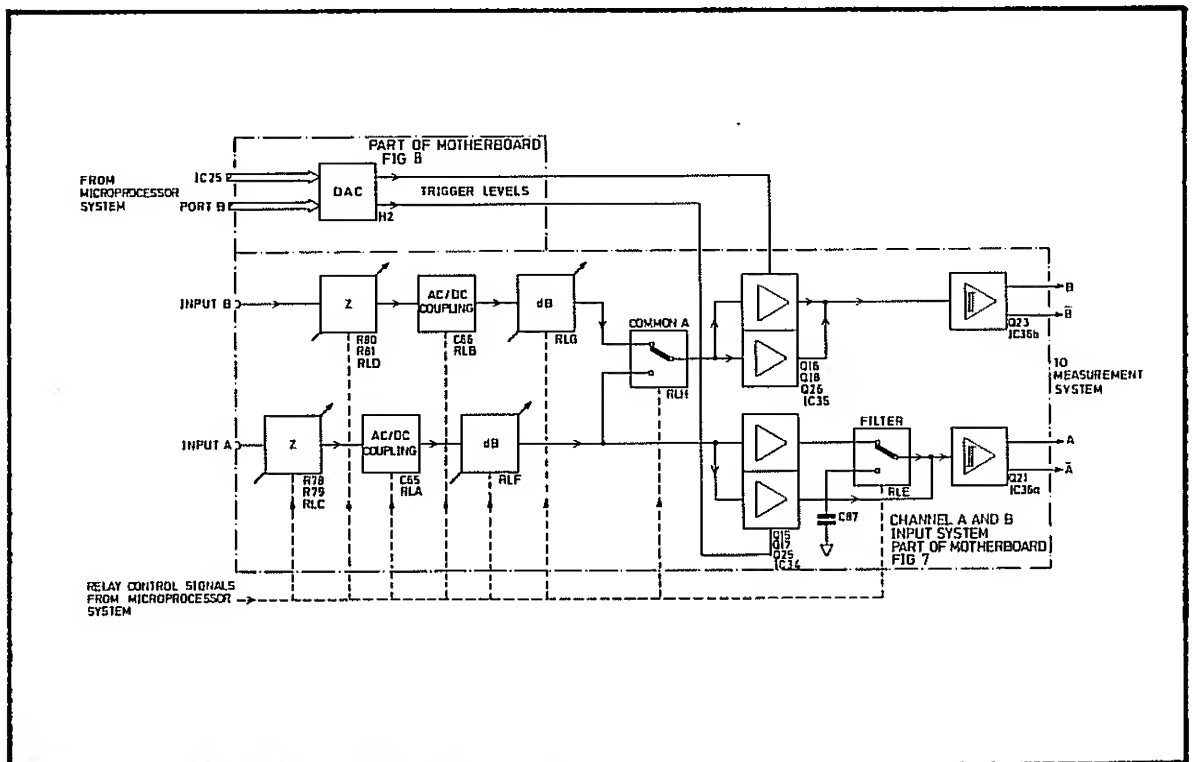

Fig 6.2 The Channel A and Channel B System
- 6 The channel A and channel B system processes the signals applied at the channel A and channel B inputs to produce differential pairs of signals which are fed to the measurement system. A block diagram is given in Fig 6.2.